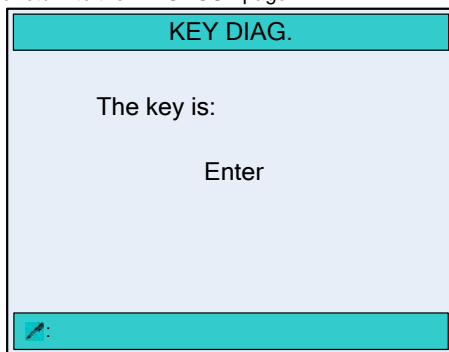

Figure 4-4 The **KEY DIAG.** page
On the **DIAGNOSE** page, move the cursor to parameter **3.KEY DIAG.** (or press the number key 3), and press  to enter the **KEY DIAG.** page, as shown in Figure 4-4.